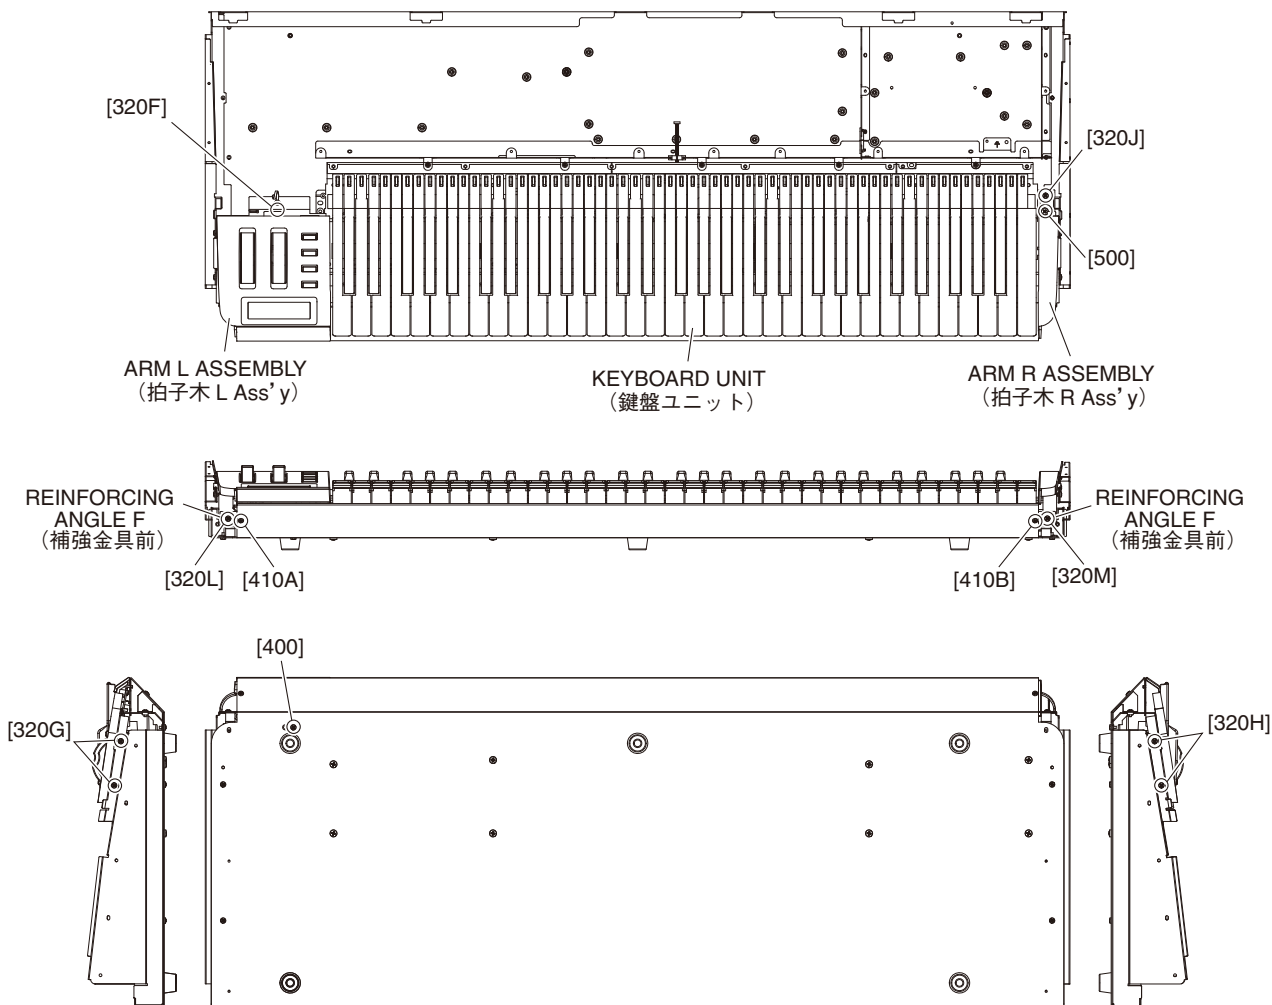

Fig. 11 (図 11)
- 15-3. Remove the screw marked [410A] and the screw marked [320L]. The reinforcing angle F can then be removed. (Fig. 11)
- 15-4. Remove the screw marked [320F], the screw marked [400] and the two (2) screws marked [320G]. The arm L assembly can then be removed. (Fig. 11)
- 15-3. [410A] のネジ 1 本と [320L] のネジ 1 本を外して、補強金具前 L を外します。(図 11)
- 15-4. [320F] のネジ 1 本、[400] のネジ 1 本と [320G] のネジ 2 本を外して、拍子木 L Ass'y を外します。(図 11)
- 16-3. Remove the screw marked [410B] and the screw marked [320M]. The reinforcing angle F can then be removed. (Fig. 11)
- 16-4. Remove the two (2) screws marked [320H], the screw marked [320J] and the screw marked [500]. The arm R assembly can then be removed. (Fig. 11)
- 16-3. [410B] のネジ 1 本と [320M] のネジ 1 本を外して、補強金具前 R を外します。(図 11)
- 16-4. [320H] のネジ 2 本、[320J] のネジ 1 本と [500] のネジ 1 本を外して、拍子木 R Ass'y を外します。(図 11)